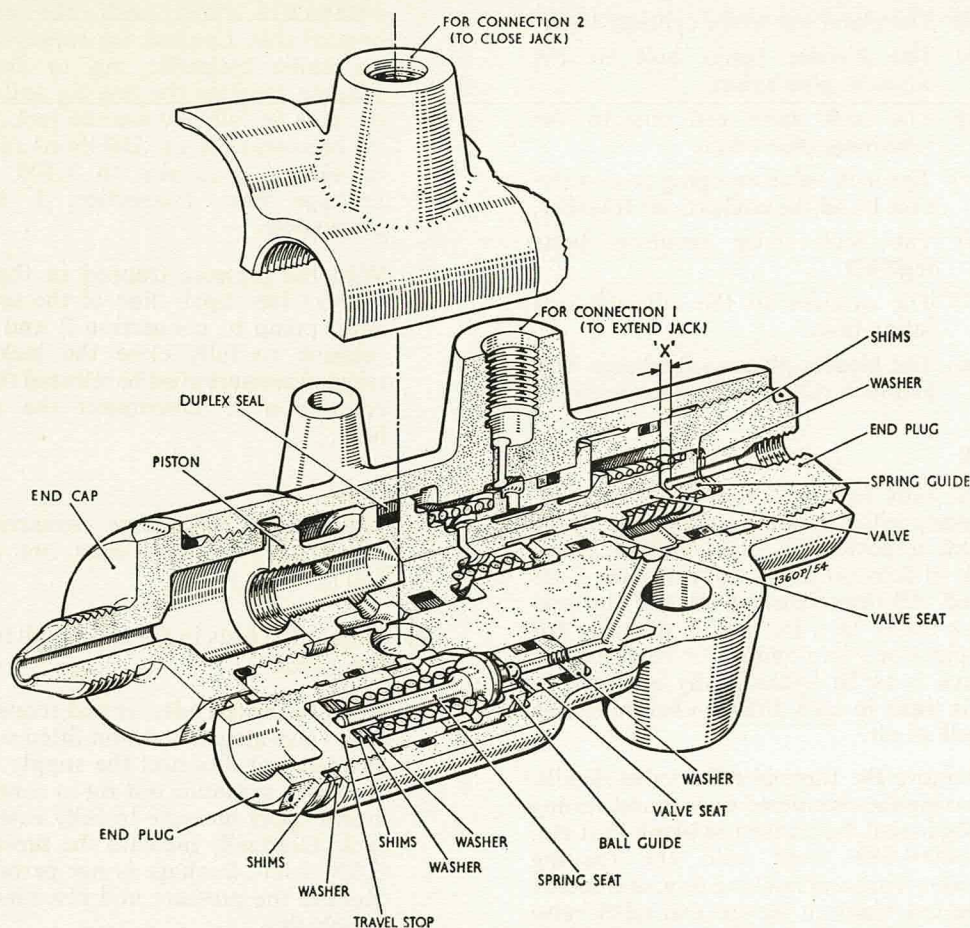

Fig. 3. Lock valve assembly
- (9) Fit the spherical bearing to the end fitting and the eye-bolt.
- (10) If the greasers have been removed, ensure that they are free from obstruction and screw them into the end fitting and eye-bolt respectively.
- (11) Fit the sealing ring and backing ring to the groove in the piston valve seat, with the rough face of the backing ring adjacent to the sealing ring.
- (12) Insert the fluted valve into the valve seat and position the assembly in the lock valve body. Locate the spring over the valve stem.
- (13) Fit the sealing ring and backing ring to the groove in the end plug, with the rough face of the backing ring adjacent to the sealing ring.
- (14) Insert the spring guide into the recess of the end plug. The shims and washer should not be fitted at this stage. Screw the plug tightly into the valve body, ensuring that the spring is correctly seated against the shoulders of the valve and spring guide.
- (15) Using a suitable depth gauge inserted from the open end of the valve body, depress the valve until its stem is felt to abut the spring guide. Then release the pressure on the valve and check the travel. The length of valve travel will coincide with the dimension of the gap 'X' shown in fig. 3. This dimension should be within the limits of 0.035 to 0.045 in. If necessary, add shims or the washer as required to obtain this dimension.
- (16) Locate the spring over the valve seat. Fit the Duplex seal to the piston and insert the piston, sealed end leading, into the body. Fit a sealing ring to the end cap and screw the cap tightly into the body to retain the piston.
- (17) Ensure that the bleeder plug is free from obstruction and screw it into the tapping in the end plug.
- (4) Repeat the tests in (2) and (3) alternately five times.
- (5) Remove the test adapter and screw in the lock valve attachment bolt fitted with the bonded seal. Connect the supply line of the static hydraulic test rig to connection 1 and apply pressure to fully extend the jack. Gradually increase the pressure to 2,600 lb/in2. Leakage is not permissible. Release the pressure and disconnect the supply line.
- (6) Connect the supply line to connection 2 and apply pressure to fully close the jack. Gradually increase the pressure to 2,600 lb/in2. Leakage is not permissible. Release the pressure and disconnect the supply line.
- (7) Connect the supply line of the power pump rig to connection 1 and operate the rig to fully extend the jack. The pressure required to extend the jack must not exceed 300 lb/in2 and the time required to complete the stroke must not exceed 9 seconds. Release the pressure and disconnect the supply line.
- (8) Connect the supply line to connection 2 and operate the rig to fully close the jack. The pressure required to close the jack must not exceed 210 lb/in2 and the time required to complete the stroke must not exceed 10 seconds. Release the pressure and disconnect the supply line.
- (9) If leakage occurs at either of the connections during operations (5) to (8) it may be due to a faulty sealing ring of the jack piston or lock valve piston. To determine the source of leakage carry out the following procedure.
- (10) Remove the lock valve attachment bolt and screw in the test adapter fitted with the bonded seal. Remove the test blank and replace the thermal relief valve details. Connect the supply line of the static hydraulic test rig to the test adapter. Slacken the relief valve end plug a quarter to half a turn and apply pressure.
- (11) Check and adjust the relief pressure of the thermal relief valve, carefully screwing in the plug until it is felt to bottom and the valve relieves at a pressure of 1,500 to 1,550 lb/in2. This will be indicated by a trickle of fluid from connection 2. The re-seating pressure should be not less than 1,300 lb/in2. If necessary, fit shims under the travel stop (*fig. 3*) to obtain these conditions.
- (12) Remove the test adapter and screw in the lock valve attachment bolt fitted with the bonded seal. Connect the test rig supply line to connection 1 and apply pressure to fully extend the jack. Gradually increase the pressure until the thermal relief valve relieves at a pressure of between 1500 and 1550 lb/in2 and check for leakage past the seals of the adapter bolt. Disconnect the supply line.
- (13) Connect the test rig supply line to connection 2 and apply pressure to fully close the jack. Disconnect the supply line.